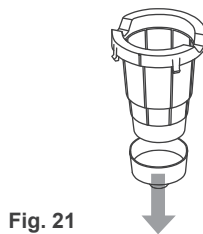

Fig. 21
1. There are two bottom Needles inside the Red Cup Holder. Pull down the bottom funnel from the top Holder. (Fig. 21)